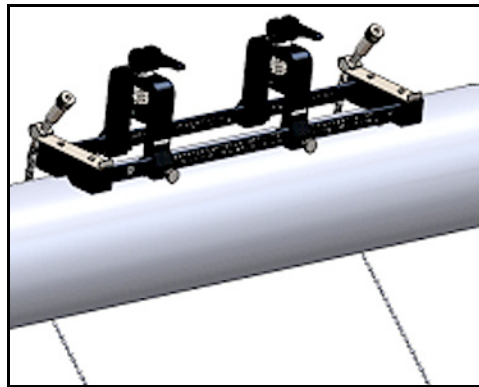

Figure 11: Fixture Placed on Top of Pipe
4. Place the clamp-on fixture on top of the pipe so that minimal effort is required to maintain its position during installation (see *Figure 11* below).